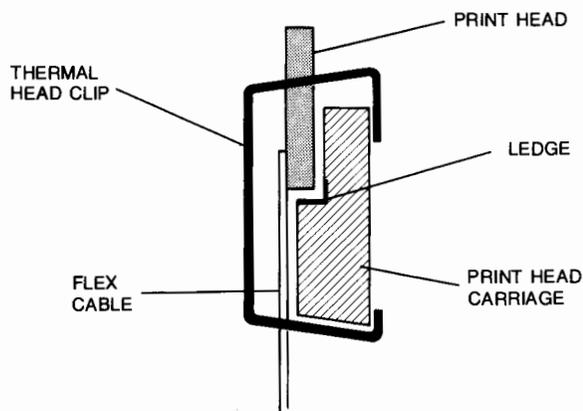

Figure 7-13D. Ledge Inside Print Head Carriage
4. Pull the print head up until you can see some of the flex cable through the square hole in the front of the print head carriage. Then push the print head back down until it rests on the ledge which exists on the inside of the print head carriage. (See figure 7-13D.)